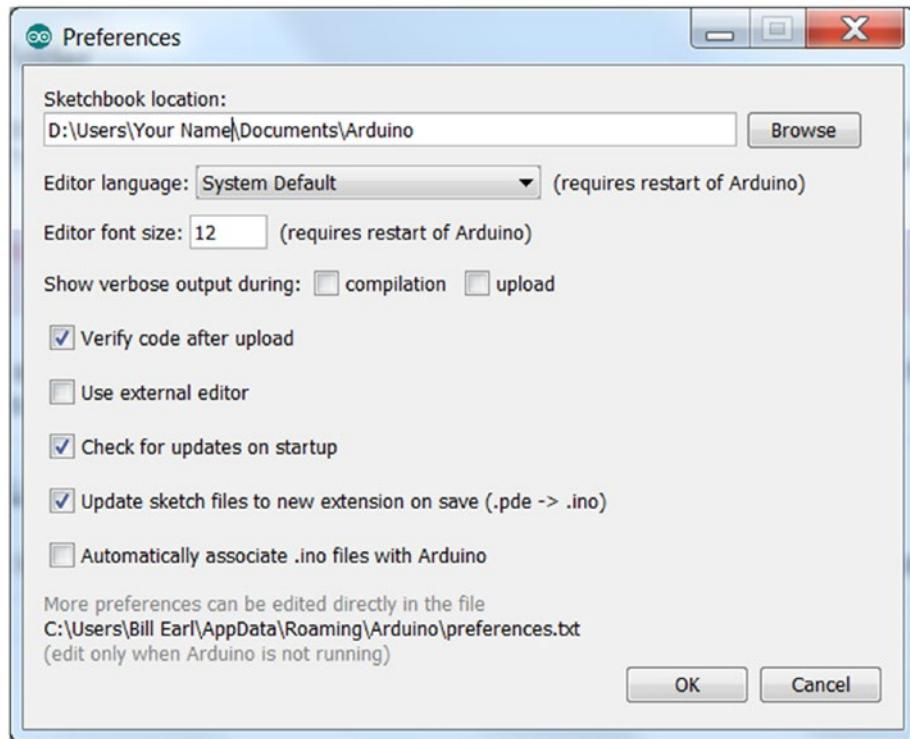

Figure 3-20. Arduino Preferences dialog
- Usually, the sketchbook location is a folder named Arduino in the Documents folder (Figure 3-20).